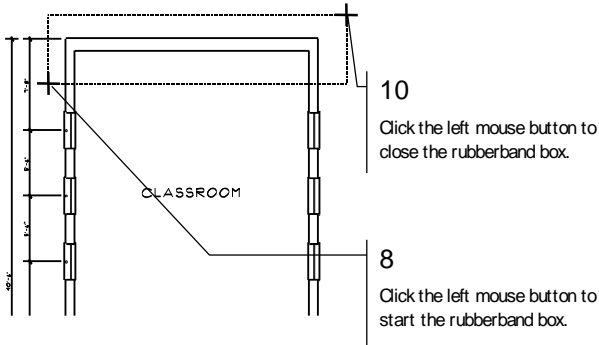

Figure 4.14: Stretching the rear wall.
9. Drag the mouse diagonally until the rubber band box encloses the rear wall and part of the left and right walls. (See Figure 4.14)